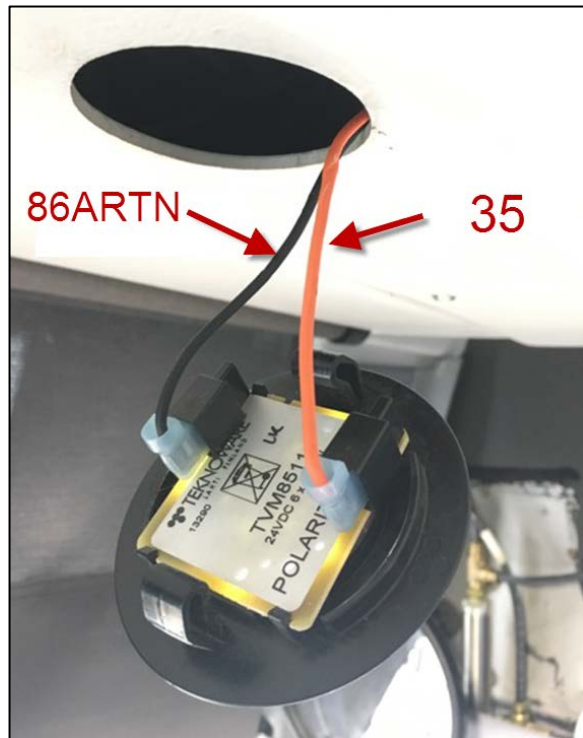

Figure 35
55. Locate wires 35 (orange) and 86ARTN (black) of the existing L17 light inside the front RH roof (Figure 35).